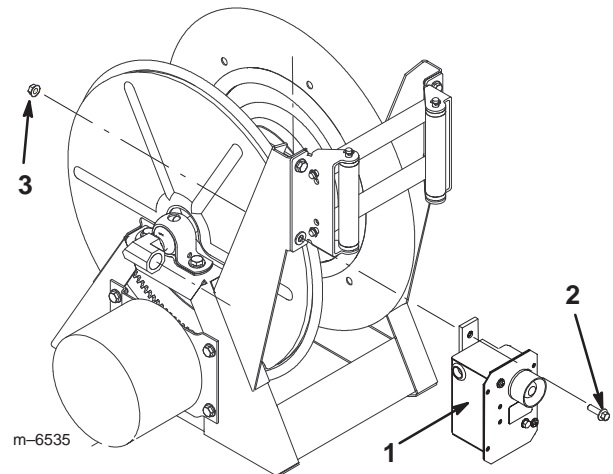

Figure 5
9. Remove and discard the bolt and nut from the lower inside roller support on the hose reel and install the electrical box in that hole (Fig. 5), using a flange-head bolt (5/16 x 1 inch) and a flange nut (5/16 inch).